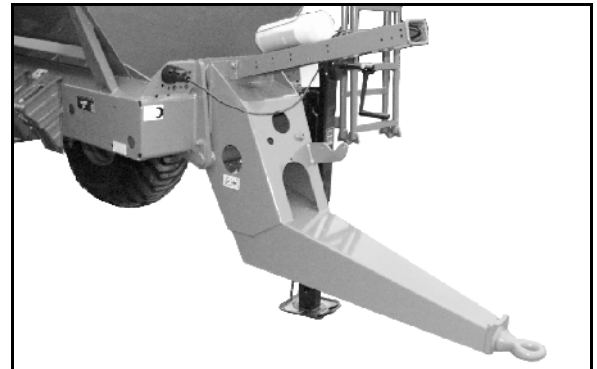

Fig. 24
- Cranked hitch drawbar (Fig. 24),